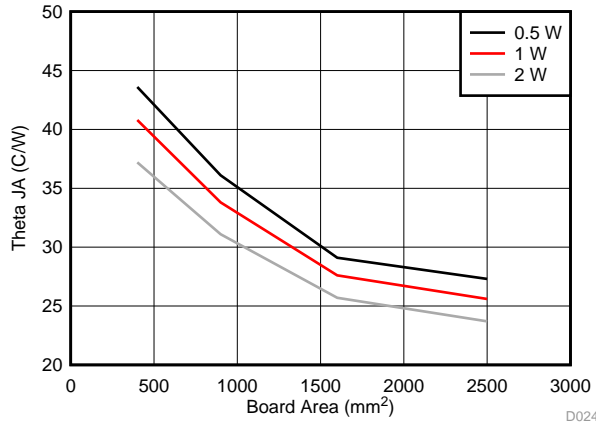

Figure 17.  $R_{\theta\text{JA}}$  vs Copper Board Area
It is easy to see that larger ambient temperatures (TA) and larger values of RθJA reduce the maximum available output current. As stated in Semiconductor and IC Package Thermal Metrics, the values given in the Thermal Information table are not valid for design purposes and must not be used to estimate the thermal performance of the application. The values reported in that table were measured under a specific set of conditions that are never obtained in an actual application. The effective RθJA is a critical parameter and depends on many factors such as power dissipation, air temperature, PCB area, copper heat sink area, number of thermal vias under the package, air flow, and adjacent component placement. The LM53603 uses an advanced package with a heat spreading pad (EP) on the bottom. This must be soldered directly to the PCB copper ground plane to provide an effective heat sink, as well as a proper electrical connection. The resources in Ground and Thermal Plane Considerations can be used as a guide to optimal thermal PCB design and estimating RθJA for a given application environment. A typical example of RθJA versus copper board area is shown in Figure 17. The copper area in this graph is that